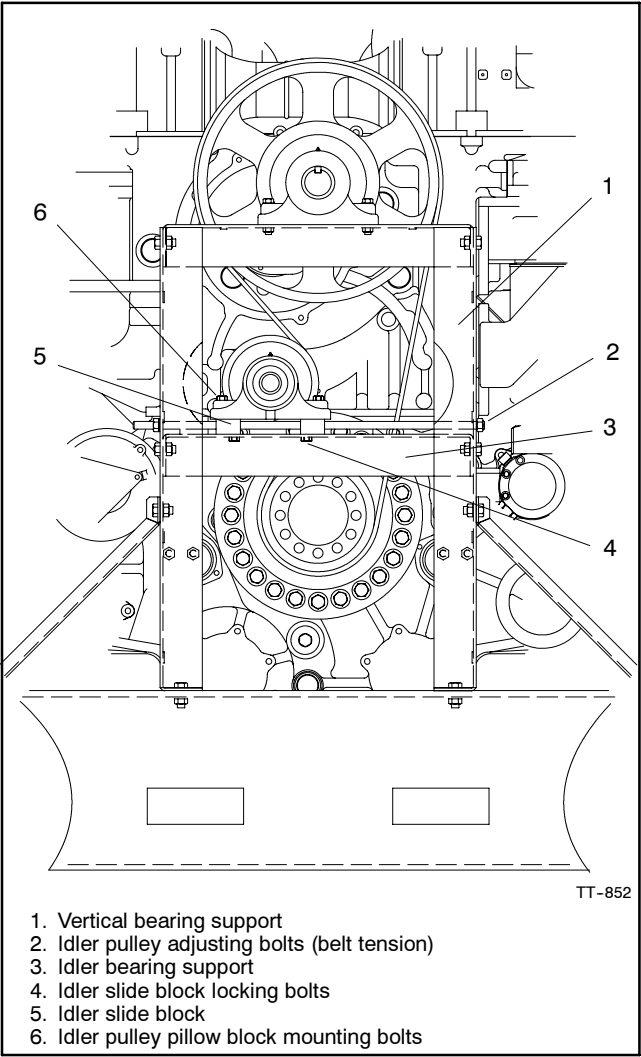

Figure 5 Idler Pulley Pillow Block Mounting on Fan-Bearing Support, Rear View
2.9 Verify that the idler pulley pillow block to idler slide block mounting bolts (top side) are torqued to 92 Nm (68 ft. lb.) See Figure 5.
2.13 Check the fan belt tension using a poly-V (serpentine) belt tension gauge. See Figure 6 for belt tension specifications. Adjust the belt tension by turning the two idler pulley adjusting bolts. See Figure 5 for location.